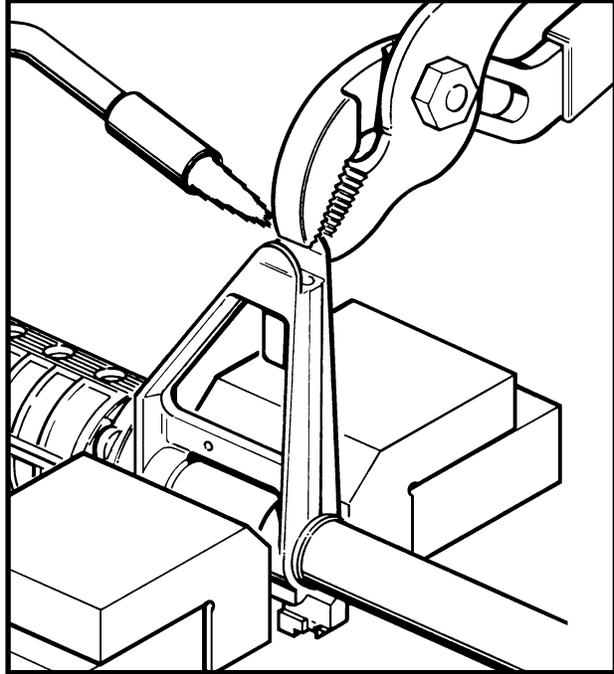

Figure 3-2-21 Reforming the Front Sight Protector
- (1) Remove burrs or nicks by stoning. **DO NOT** alter original critical dimensions;
- (2) Touch-up the finish of affected areas as detailed in Part 3, Section 1 of this instruction; and
- (3) Repair bent front sight protectors by the following procedure:
- (iv) Reform the bent front sight protector with slip joint pliers. See Figure 3-2-21;
- (4) Remove carbon from the gas tube hole of the front sight using a 5.56 mm bore brush;
- (5) Replace loose or missing barrel indexing pins; and
- (6) Replace barrel assemblies that have defective barrels.